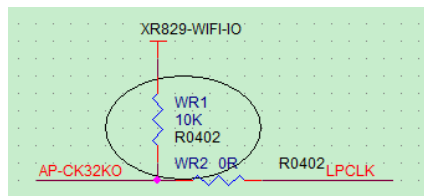

Figure 2-14 32KFOUT Circuit Design
- The 32KFOUT pin is an OD output structure pin and must connect to the external pull-up resistor, the pull-up voltage and the working voltage of the external peripheral must be consistent. As shown in Figure 2-14.